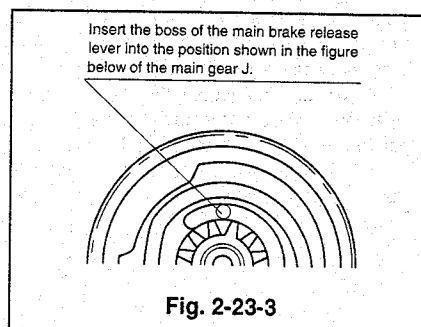

Fig. 2-23-3
- ① Install the main brake release lever so that the shaft enters the inside groove shown in Fig. 2-23-3 of the main gear J.
- ② Install the main brake(TU) and the main brake spring J(TU). (Refer to Para. 2-17 for the installation method.)
- ③ Install the sub brake(TU), the sub off lever, and the sub spring(TU). (Refer to Para. 2-16 for the installation method.)
- ④ Install the sub brake(SP) and the sub spring(SP). (Refer to Para. 2-14 for the installation method.)
- ⑤ Install the cassette housing. (Refer to Para. 2-1 for the installation method.)